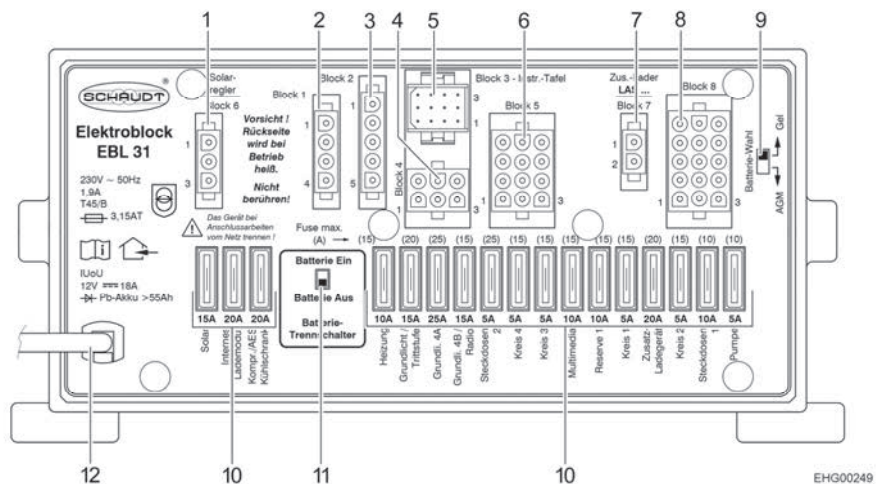

Fig. 99 Transformer/rectifier (EBL 31)
- ▷ To disconnect **all** electrical 12 V appliances from the power supply and prevent discharge of the living area battery, set the battery cut-off switch (Fig. 99,11) to "Batterie Aus" (battery Off) on the transformer/rectifier.
- ▷ Appliances such as the transformer/rectifier itself, the panel, the heater, the solar charge regulator (if present) and other devices consume a small amount of standby current and thus discharge the living area battery over time. Therefore, you switch the battery cut-off switch (Fig. 99,11) on the transformer/rectifier to "Batterie Aus" (battery Off) when the vehicle is not used for a long period of time.